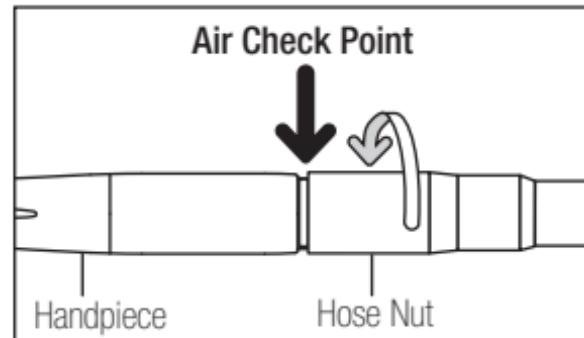
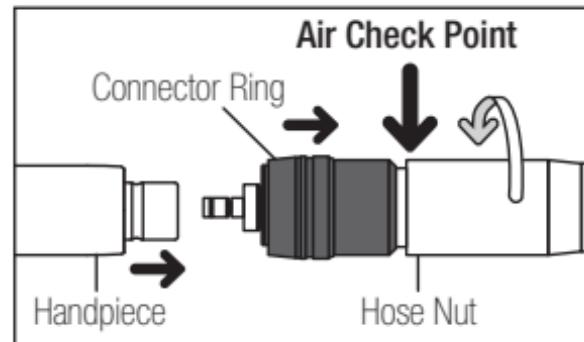

Fig. 1
Fig. 2
- 2) Tighten the Hose Nut. (Fig.1)
Slide back the Connector Ring as shown in Fig.2.
Set the Air pressure at the "Air Check point" on Fig. 1 and Fig. 2. The setting values are on the specification table. Do not exceed the recommended air pressure by using Multi Gauge.